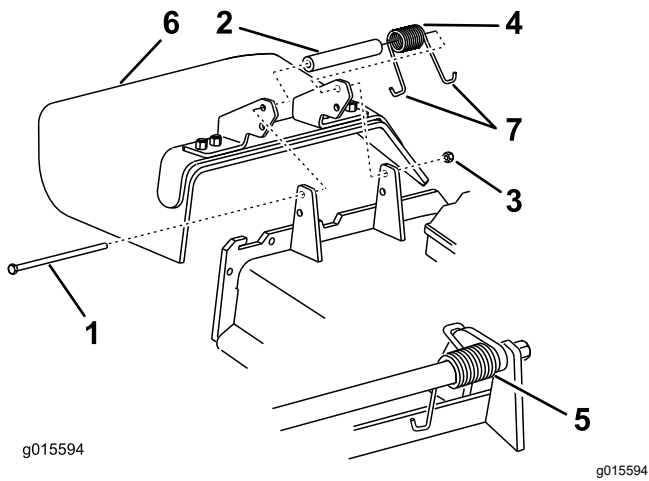

Figure 125
1. Remove the locknut, bolt, spring, and spacer holding the deflector to the pivot brackets (Figure 125).
2. Remove the damaged or worn grass deflector (Figure 125).
**Note:** Make sure that 1 J-hook end of the spring is installed behind the deck edge before installing the bolt as shown in Figure 125.
- Place 1 J-hook end of the spring around the grass deflector (Figure 125).